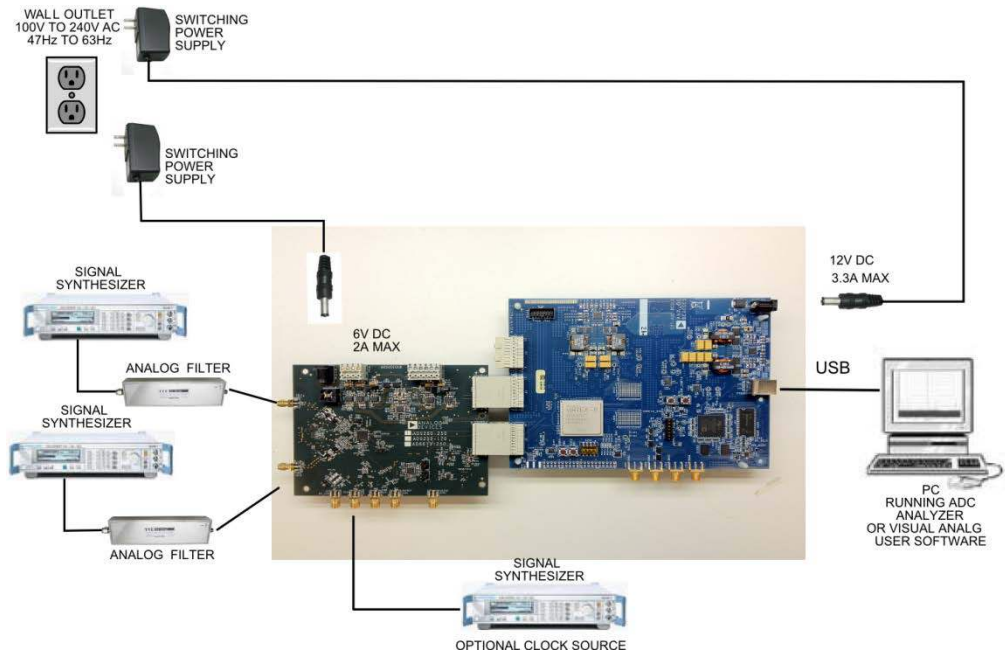

Figure 1: AD9250 Evaluation Board with HSC-ADC-EVALDZ Data Capture Board
1. Connect the AD9250 Customer evaluation board and the HSC-ADC-EVALDZ board together as shown in Figure 1.